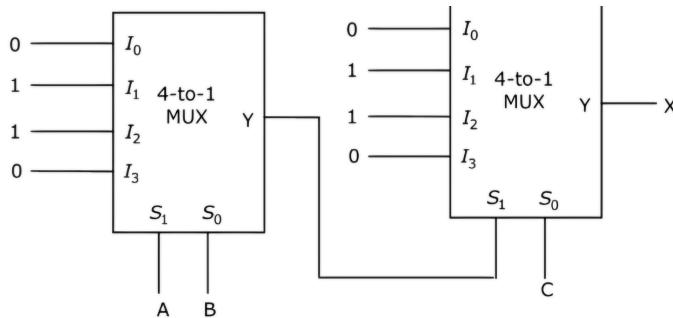

Fig. 3.6
- in the following circuit in Fig. 3.6 (GATE EC 2007)